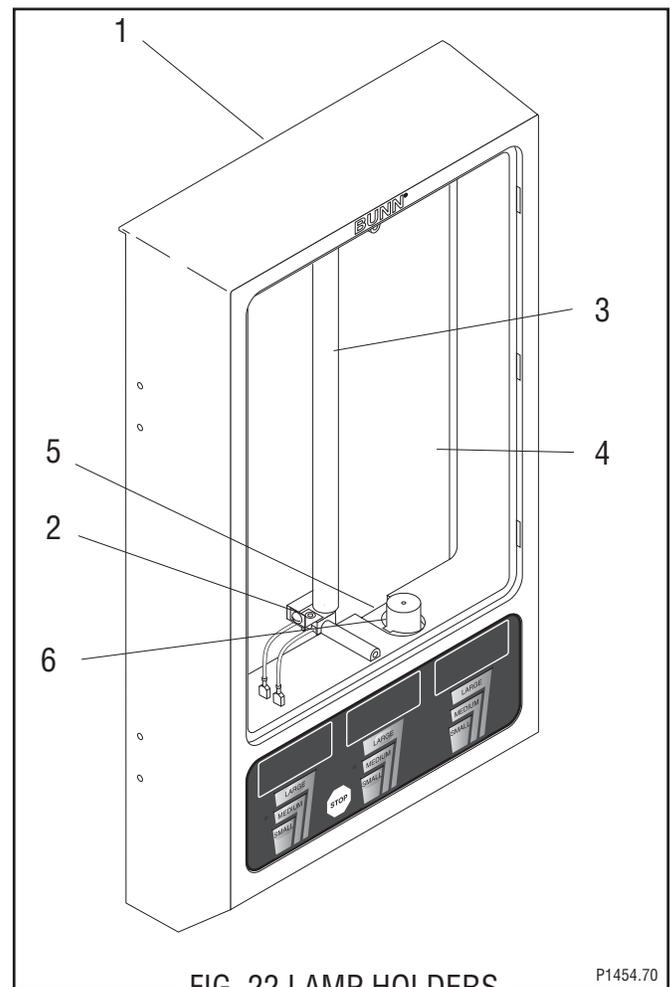

FIG. 22 LAMP HOLDERS
Removal and Replacement: (Refer to Fig. 22)
5. Remove the upper door cover (4), lamp (3), lamp holders (2) and door wiring harness as an assembly.
7. Rotate lamp (3) 90° and remove from lamp holders (2).
8. Remove the #6-32 screw securing the lamp holder (2) to be removed, remove lamp holder (2) and discard.
9. Install new lamp holder (2) and secure with a #6-32 screw.
11. Install lamp (3) into lamp holders (2) and turn 90° until the pins snap in place.
12. Install upper door panel (4), lamp (3), lamp holders (2) and door wiring harness as an assembly using five #6-32 screws.
14. Install the door lower panel (5) using five #6-32 screws.
**LAMP REPLACEMENT** (Refer to Fig. 22)
3. Rotate lamp (3) 90° and remove from the lamp holders (2).
4. Insert new lamp (3) into lamp holders (2) and turn 90° until the pins snap in place.
Removal and Replacement (Refer to Fig.22):